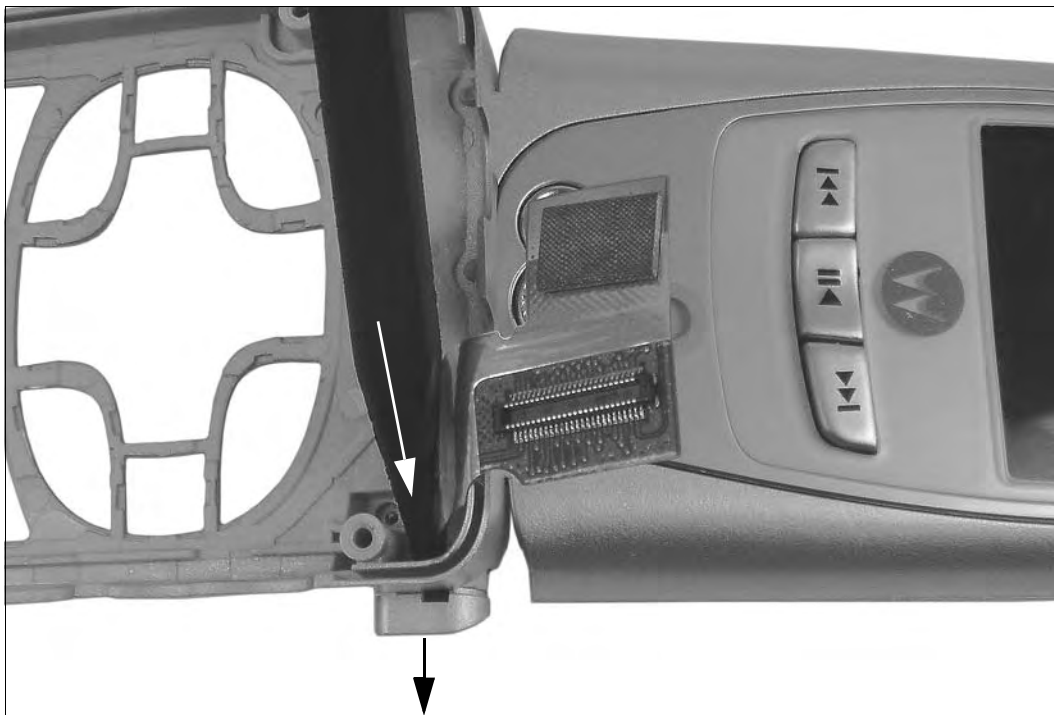

Figure 7-14
6. With the pointed tip of the black stick, push on the inside of the left knuckle from the end of the flex slot until the knuckle releases (see Figure 7-14). Do not touch or damage the flex ribbon during this step.